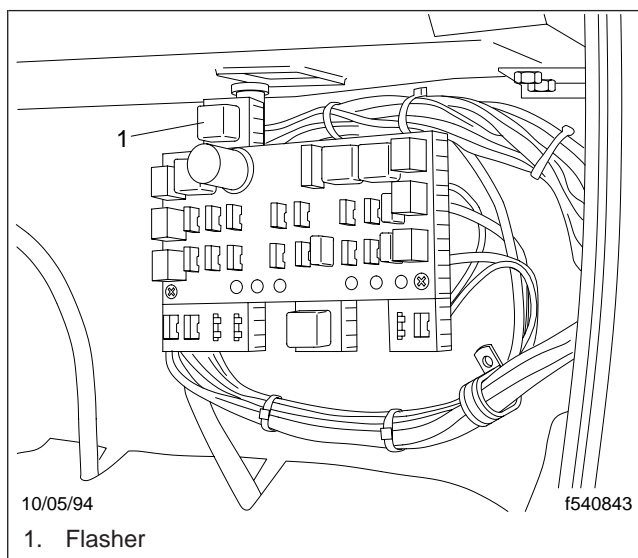

Fig. 1, Under-Dash Electrical Panel
1. Uncover the electrical panel by removing the fasteners. See Fig. 1.
5. Check the turn-signal flasher (if so equipped). See Fig. 1. Make sure that the two male and female connectors are firmly connected. Check that the flasher fuse is firmly seated in the holder.